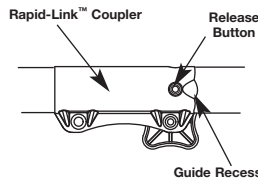

Fig. 1
2. Press and hold the release button (Fig. 1).
NOTE: Aligning the release button with the guide recess will help installation (Fig. 1).